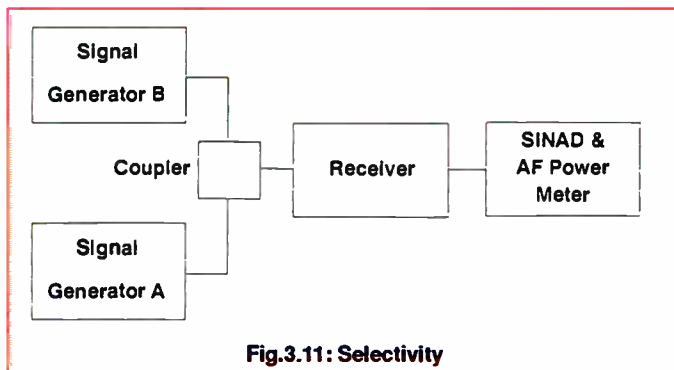

Fig.3.11: Selectivity
- i) Connect the equipment as shown in Fig.3.11.